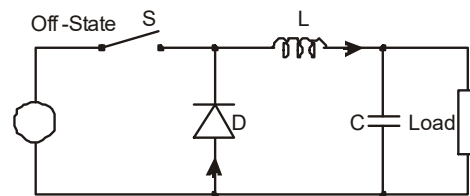

Fig. P9.3: Off-state
- When the switch is opened again (off-state), as shown in Fig. P9.3, the current will start decreasing. The decreasing current will produce a voltage drop across the inductor which will be opposite to the drop at on-state and hence, the inductor becomes a Current Source. The stored energy in the inductor's magnetic field is released which supports the current flow through the load. This off-state current is added to the current flowing during on-state, hence, the total current becomes greater than the average input current (being zero during off-state).